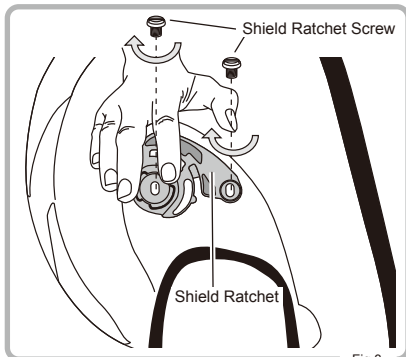

Fig.3
- ③ Fasten both Shield Ratchet Screws clockwise securely. Repeat the same procedure on the other Shield Ratchet. Then the Shield Ratchets are installed (Fig. 3)